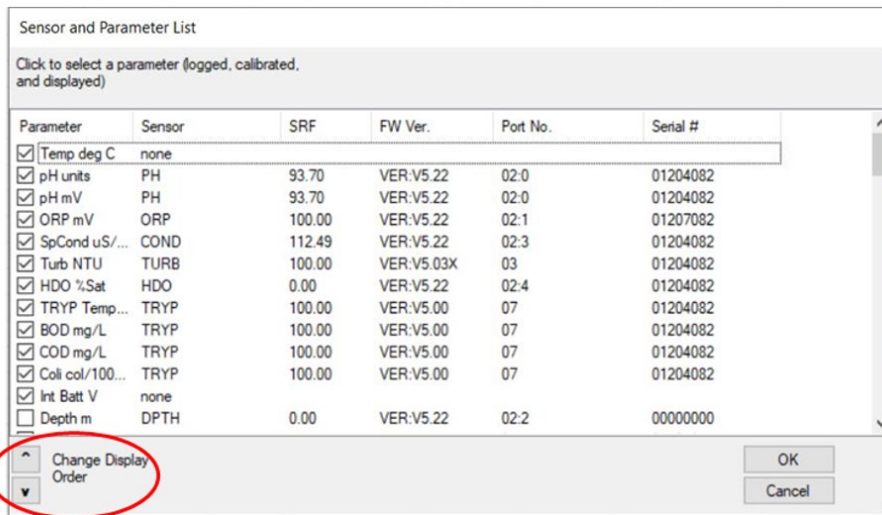

Figure 13: Sensor and Parameter list from Proteus Control Software.
17. Displays the sensor and parameter list (Figure 13). Parameters with a tick next to them are displayed on the main interface in the order shown on the list.